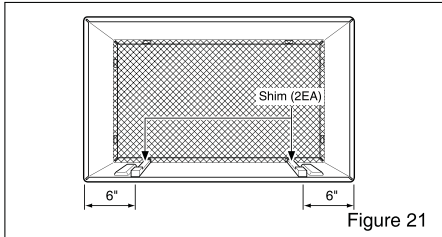

Figure 21
- 7** To achieve rearward slope for unit draining, remove the backing from the  $11^{13}_{16}$ " shim strips and attach them as shown below in Figure 21. The higher portion of shim is to be placed in front of the rib on the base of wall sleeve.